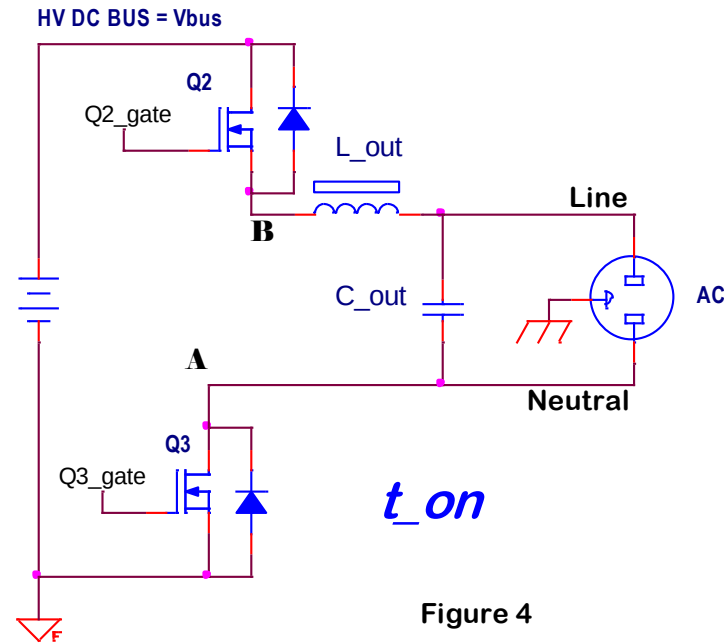
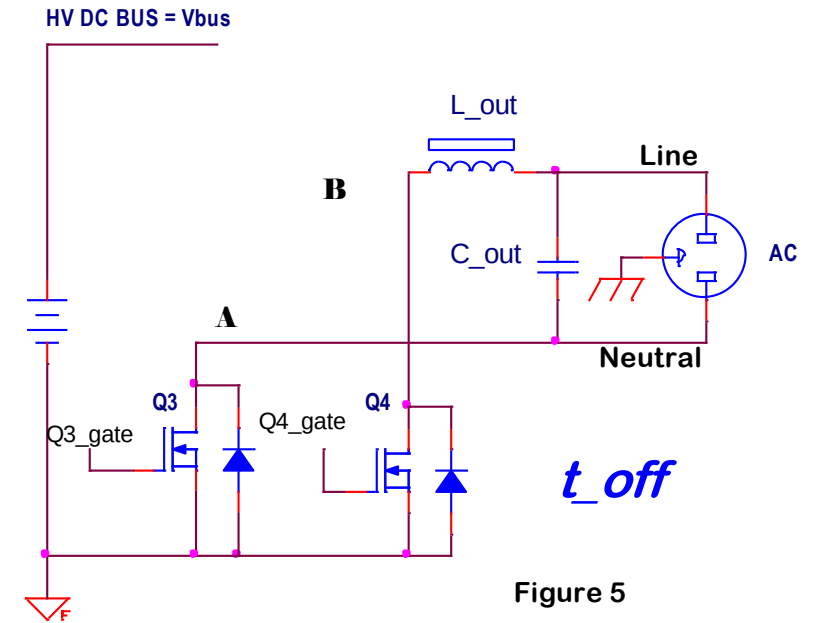

Figure 4
Figure 5
- The equivalent schematics for H-bridge on-time and off-time are shown in Figure 4 and Figure 5 respectively. The relevant waveforms for unipolar modulation are shown below. The left side (the "A" leg) of the bridge switches at the fundamental frequency of the AC output i.e. 50Hz or 60 Hz. The right side of the bridge (the "B" leg) is pulse width modulated at high frequency to produce an AC output waveform. During the positive half of the AC output waveform, Q3 is on, Q1 is off and point A is connected to the negative of the HV DC BUS. Q2 and Q4 then switch in a manner like a synchronous buck regulator. Note that Q2 and Q4 are driven in a complimentary manner i.e. when Q4 is on, then Q2 is off and vice versa.